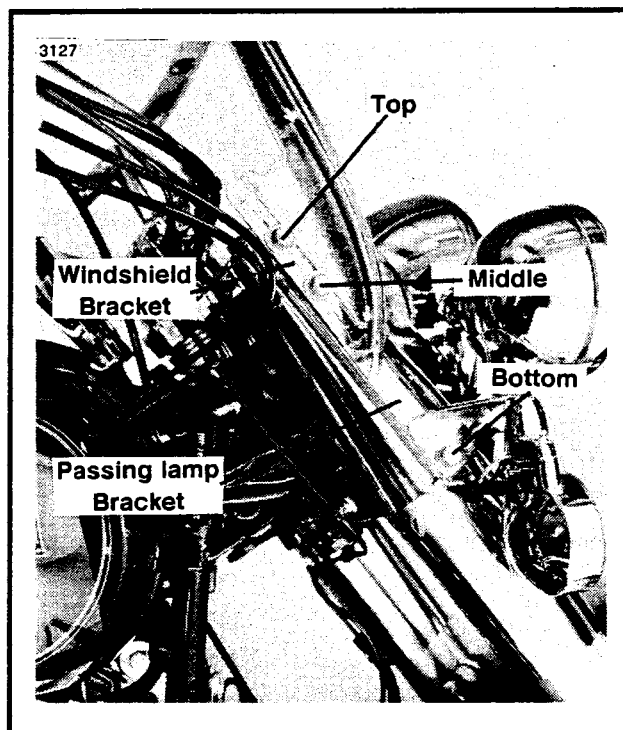

Figure 1. Windshield Mounting
2. See Figure 1. Slide the windshield brackets over the outside of the passing lamp brackets..